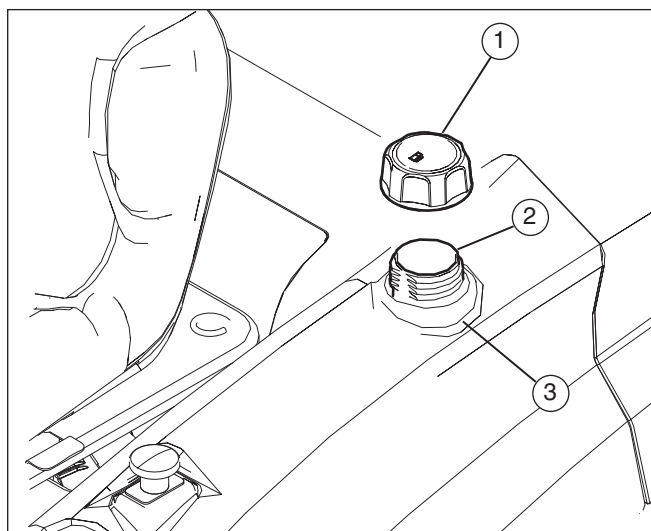

Figure 20
1. Remove the filler cap (1) (see **Figure 20**).
2. Fill the fuel tank (2) to the FULL (3) position with regular unleaded fuel.